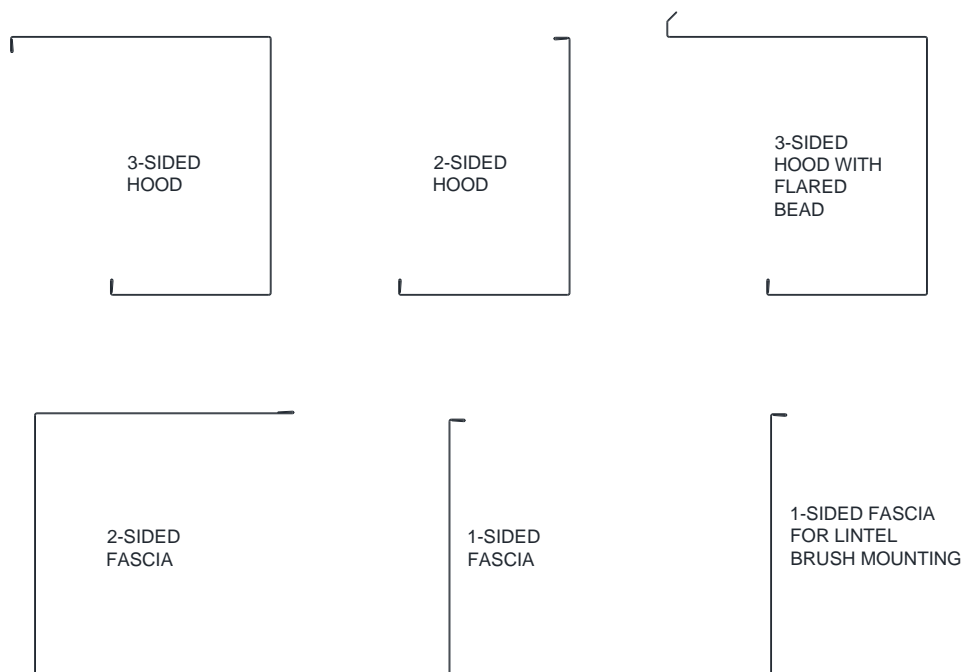

Figure 10.4 - Hood Configurations
1. Check the job construction drawings to see if the hood has multiple parts (such as a two sided hood with a fascia, two sided hood without a top piece, three sided hood with a flared top bead, etc). See **Figure 10.4** for possible hood configurations.